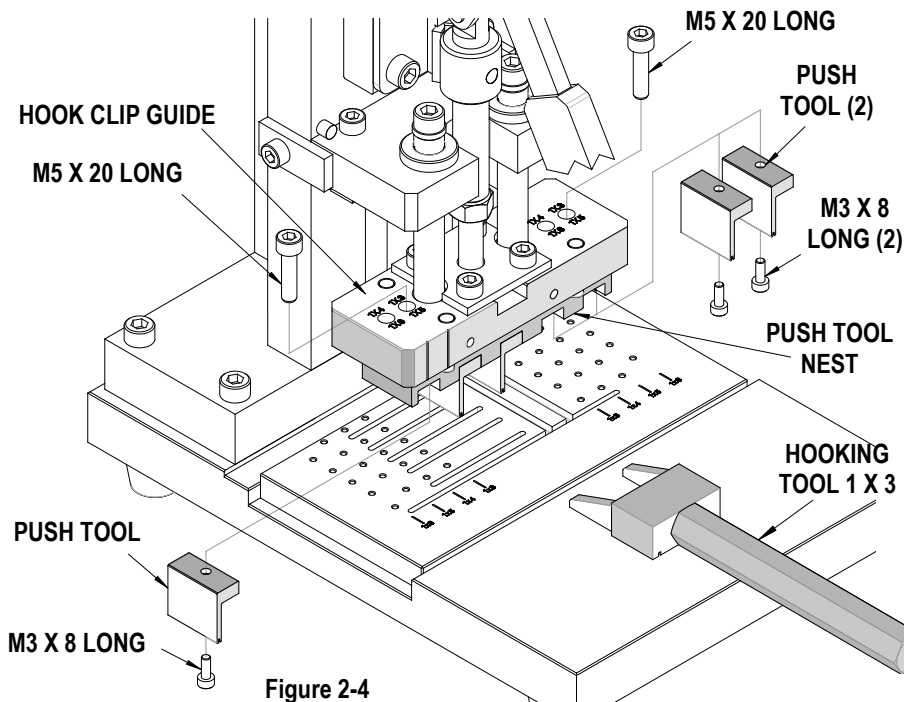

Figure 2-4
1. With the Toggle Clamp in the down position remove the Hook Clip Guide by removing the two (2) M5 screws.
2. Remove two (2) Heat Sink Push Tools and the M3 by 8 screws from right side and one (1) from the left side of the Push Tool Nest. See Figure 2-4.